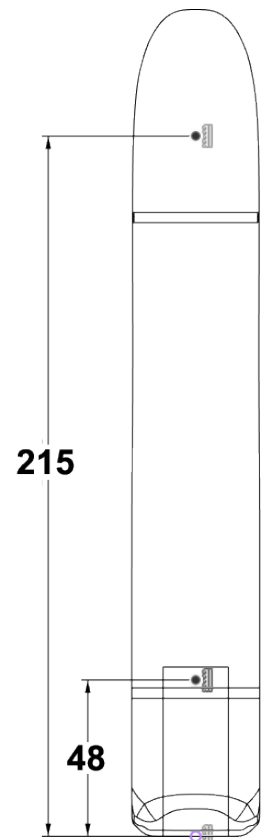

Fig. 29
Step 6. Click **Dimension**  (D) on the toolbar.
Step 7. Dimensions Points to midpoint of rear edge, **Fig. 29**.
Step 2. On the Solid tab **SOLID** click **Hole**  (H) in the Create area of toolbar.